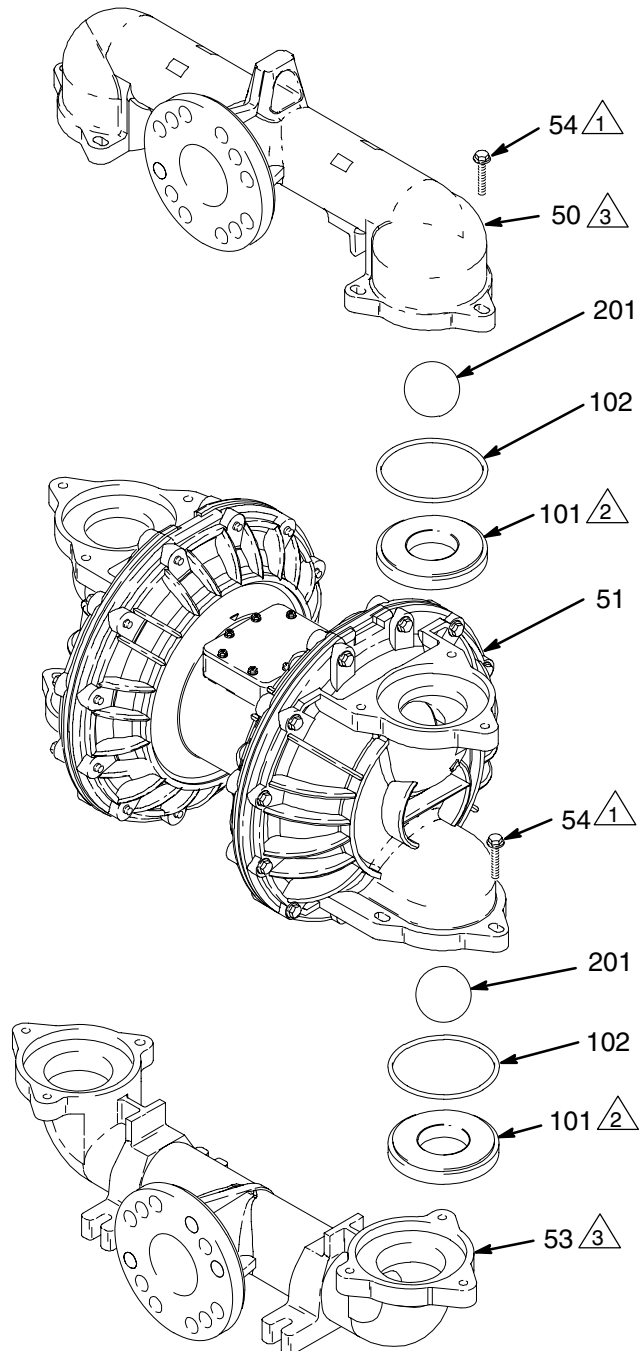

Fig. 6
Disassembly (See Fig. 6)
Reassembly (See Fig. 6)
2. Reassemble in the reverse order, following all notes in Fig. 6. Be sure all parts are assembled **exactly** as shown.